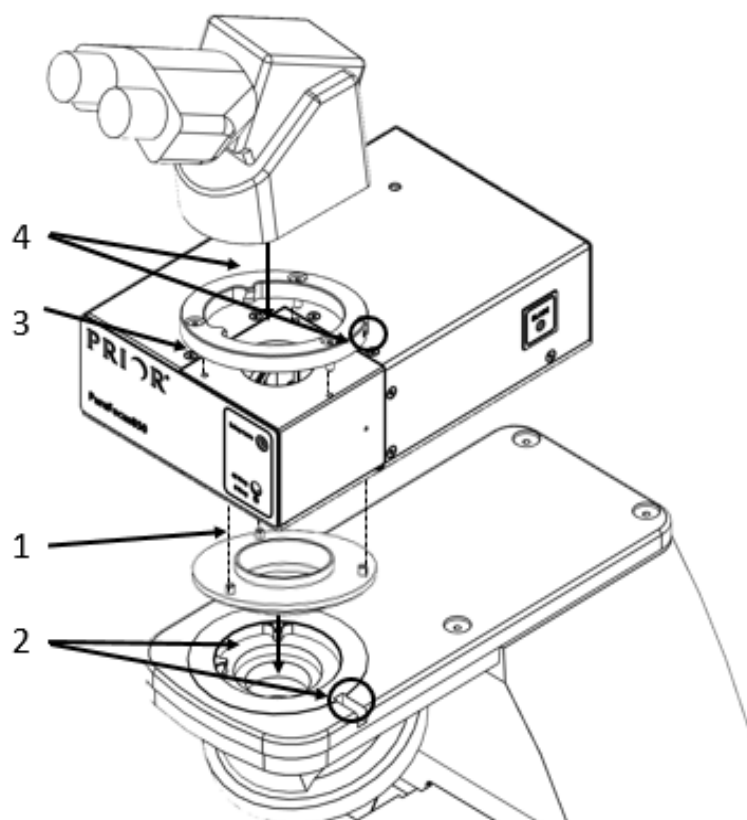

Fig 1: Installing LF320 onto the Nikon upright microscopes
1. Attach the lower dovetail (LF527) onto the bottom of the PF850/PF850M using the 3 x T173 screws (as shown on Fig 1).
2. Attach the PF850 to the microscope objective arm dovetail and secure it tightly using grub screw provided on the microscope. (as circled in Fig 1)
3. Attach the LF526 (Upper dovetail flange) on top of the PF850 using the 3 x T123 screws (as shown in Fig 1)